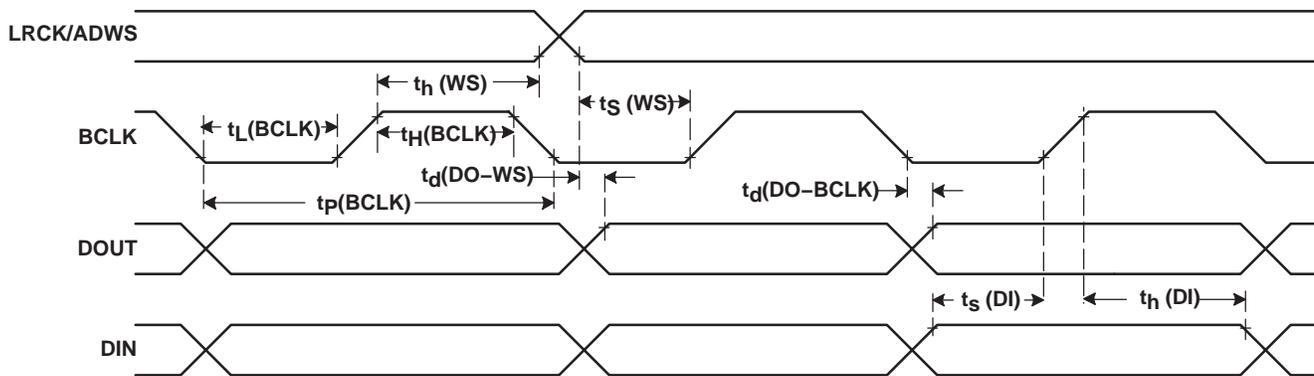

Figure 3. I2S/LJF/RJF Timing in Slave Mode
**TYPICAL TIMING REQUIREMENTS (FIGURE 3)**